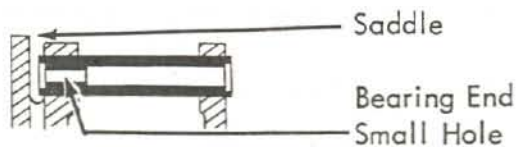

Fig. 8
- b. Insert Sleeve as illustrated Fig. 8 with Small diameter Hole near Saddle. This sleeve position is to permit better alignment and hold the correct position of bed bracket. In final assembly, sleeve is mounted with small dia. hole away from saddle.
- k. Mount Sleeve with small diameter hole outside. Reverse of position shown in Fig. 8.